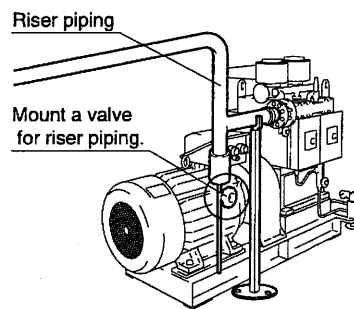

Fig. 12
- (1) Arrange the delivery piping as short as possible.
- (2) Delivery piping should not be smaller than compressor discharging diameter.
- (3) For the riser piping, be sure to install the drain valve to discharge the drain. (Fig. 12)